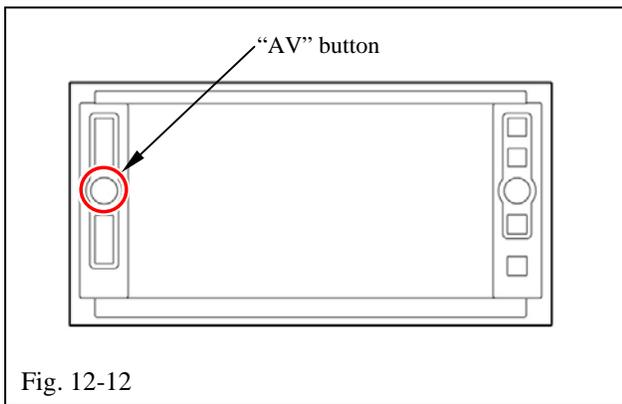

Fig. 12-12
- (j) Terminate the operation by pressing and holding the "AV" button on the screen for more than 3 seconds (Fig. 12-12).